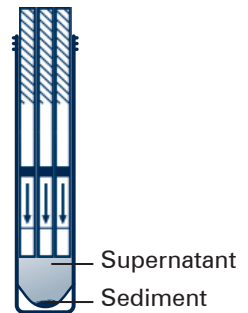

fig.6
- Place the three test strips carefully parallel, vertically and in the direction of the arrows into the sample tube. The front sides of the dipsticks must not touch each other. The liquid level (meniscus!) must not exceed the blue arrowheads (fig.6). The incubation time of 10–15 minutes starts now.